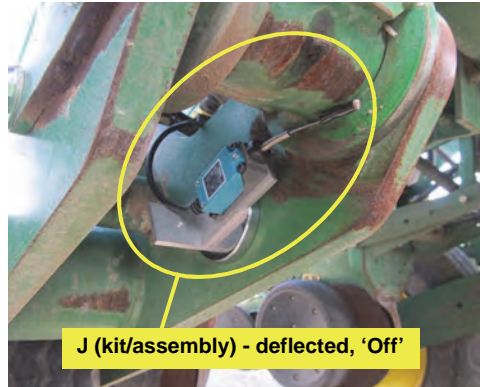

Figure 2b: Example whisker switch installation
- c. Mount whisker lift switch kit/assembly **J** on the planter so that (Figure 2b - *example only, not this installation*):